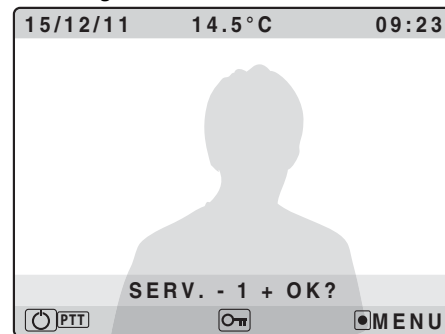

Fig.3d
- To enable the BUS relay Art.2305 (if connected on the pass) keep pressed the button  until the display shows the picture in figure 3d then select the BUS relay to enable by the buttons – and + and confirm with OK button.